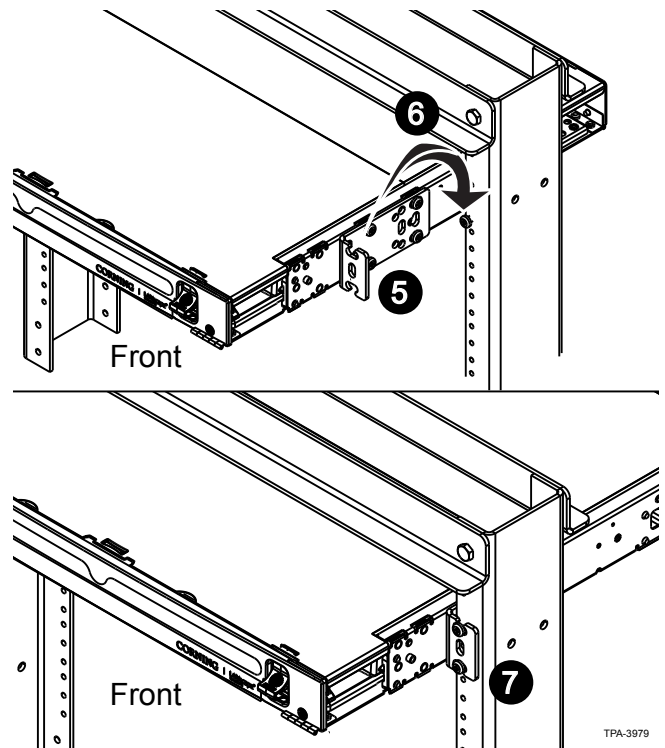

Figure 7
- Step 5:** Reattach the mounting brackets using a Phillips-head screwdriver (Figure 7).